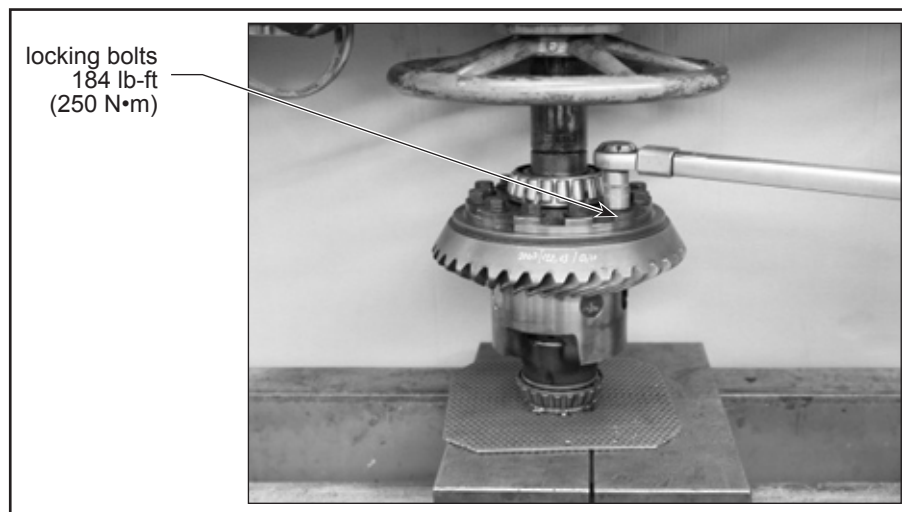

Figure 19 - Mounting of Crown Wheel on Differential Carrier
2.47. Mount two locating pins on the crown wheel, insert the differential carrier and bring it into contact position by means of the press. See Figure 19.
2.48. Fix the differential carrier onto the crown wheel by means of a press. Place and tighten the retained locking bolts. Secure the locking bolts with Loctite type-no.2701 (or equivalent). See Figure 19.